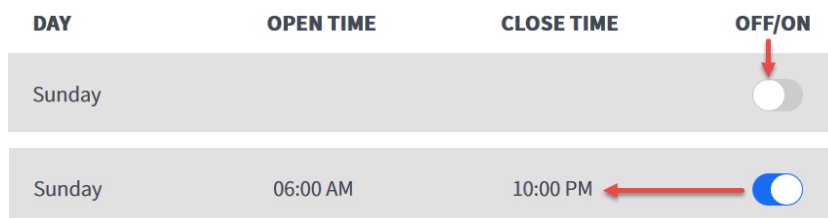

Fig. 1.12
**ON/OFF Switches:** Click on the **OFF/ON** switch to turn an option ON (if its current status is off) or OFF (if its current status is on). Some fields are invisible in the OFF position but become visible when turned ON (see OPEN TIME and CLOSE TIME columns in Fig. 1.12).